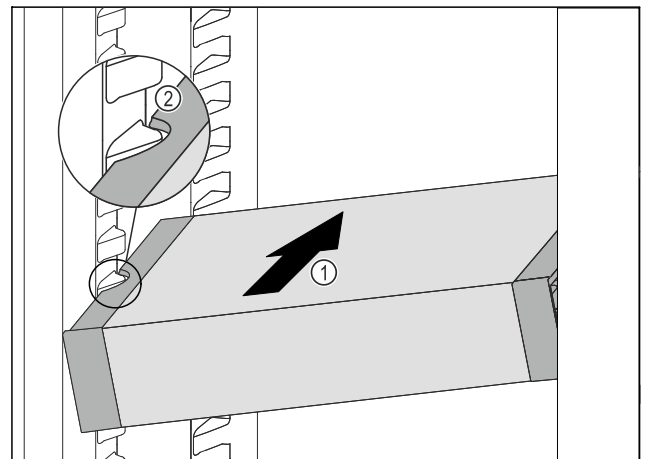

Fig. 59
- ▶ Insert the VarioSafe into the refrigerator compartment at an angle Fig. 59 (1) until the recesses in the side panel Fig. 59 (2) of the VarioSafe are at the level of the support rib in the refrigerator compartment.